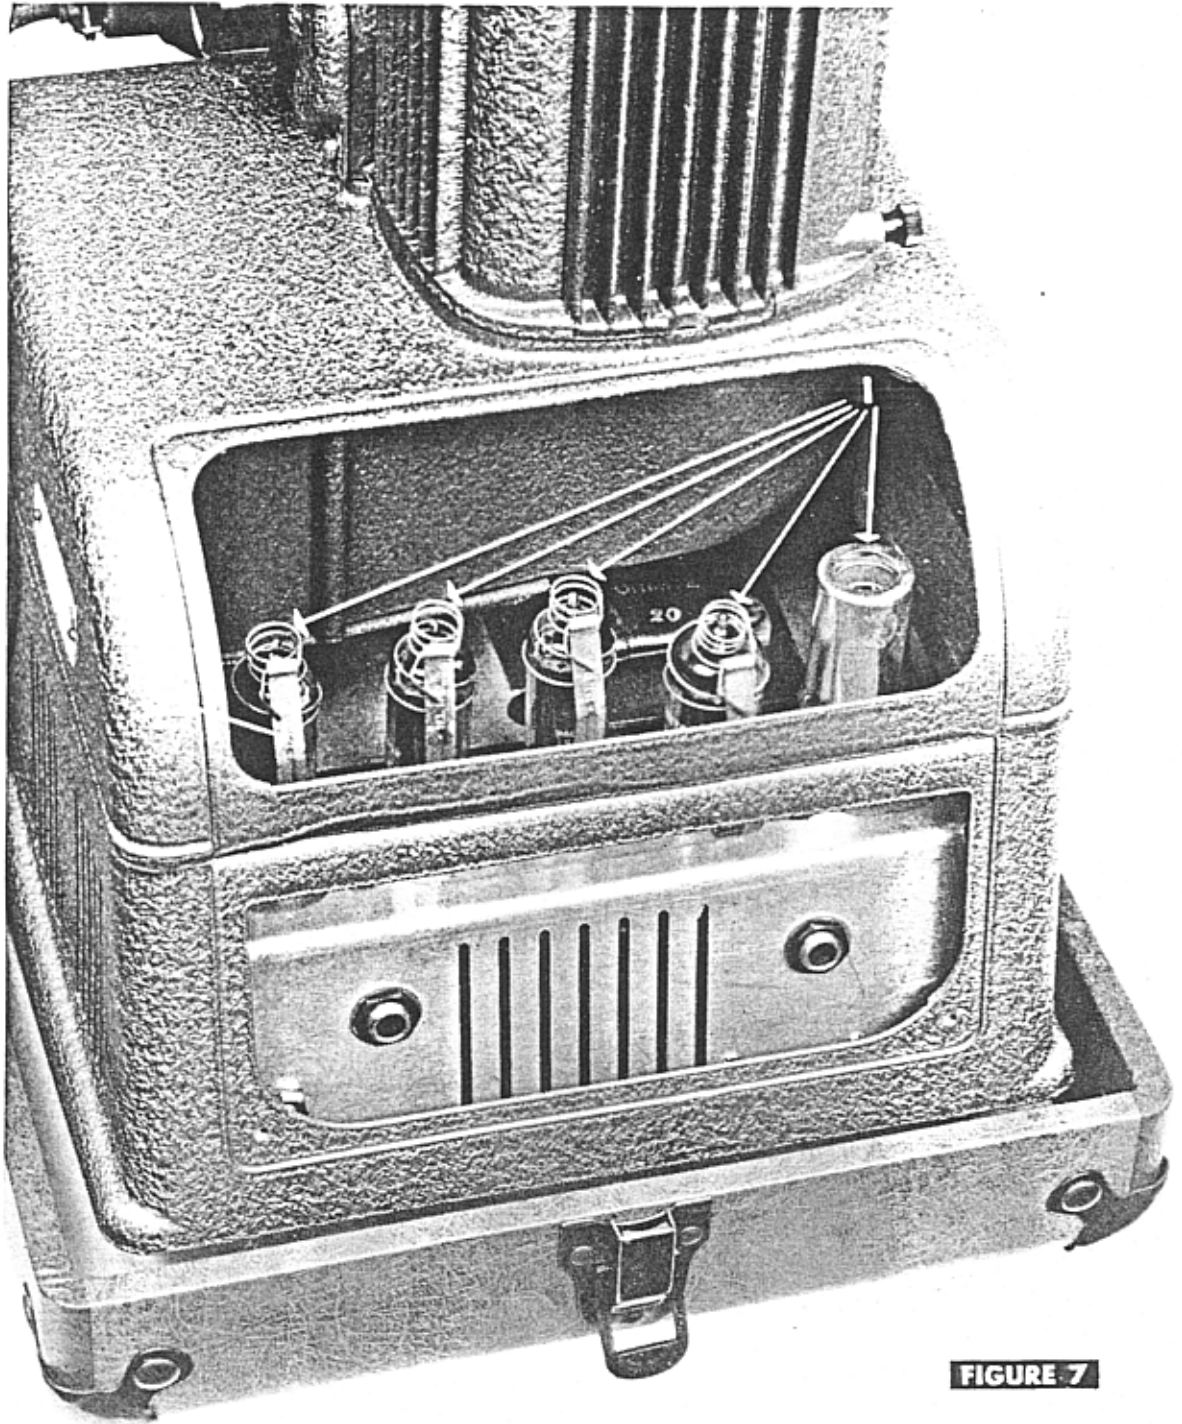

FIGURE 7
- d. **Tubes**—Remove the four screws (8 Fig. 6) and lift off the tube cover (9 Fig. 6). This will expose the tubes (1 Fig. 7). When replacing the amplifier tubes be sure to align the pins on the tubes with the holes in the sockets before attempting to insert tubes. To release the tube retainers push the retainer clips (2 Fig. 7) to the left.